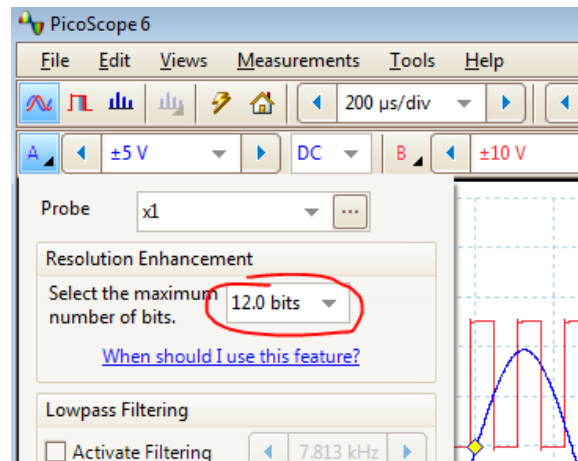

Figure 3: Setting the resolution of a channel to 12 bits
- **Resolution:** set each active channel to 12 bits (Figure 3)